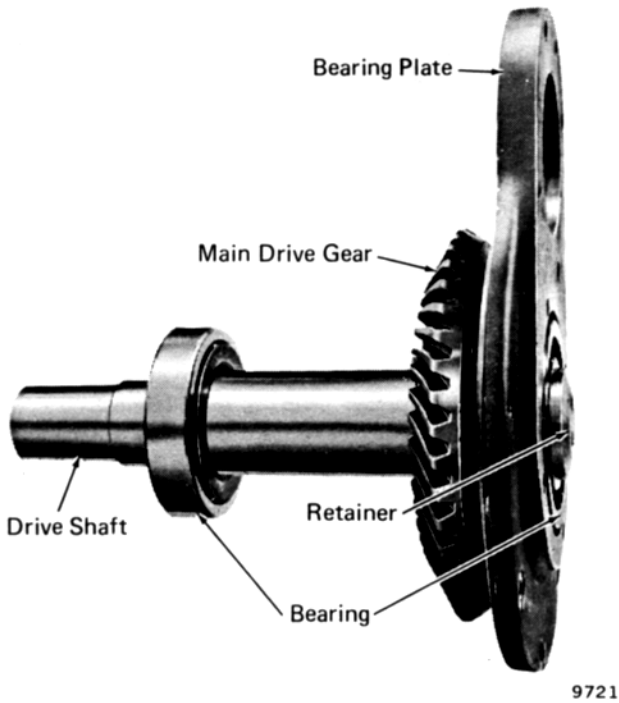

Fig. 12 - Main Drive Shaft Subassembly
1. Assemble a main drive shaft subassembly, as shown in Fig. 12. Check the main drive gear and the gear flange or hub for fit on the drive shaft before applying the drive gear to the shaft. Torque the gear-to-flange bolts to 30 ft-lbs and lockwire.